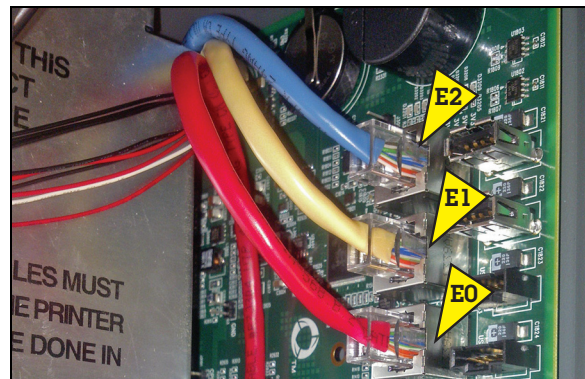

Figure 9. Remove Ethernet Module Cables from CPU Board
- Figure 9. Remove Ethernet Module Cables from CPU Board 7
9. Remove the three Ethernet Module cables ENET2 (blue), ENET1 (yellow) and ENET0 (red) from the CPU board (see Figure 9).
18. Reconnect the three Ethernet Module cables ENET2 (blue), ENET1 (yellow) and ENET0 (red) from the CPU board (ref. Figure 9).
4. Reconnect the three Ethernet Module cables ENET2 (blue), ENET1 (yellow) and ENET0 (red) from the CPU board (ref. Figure 9).